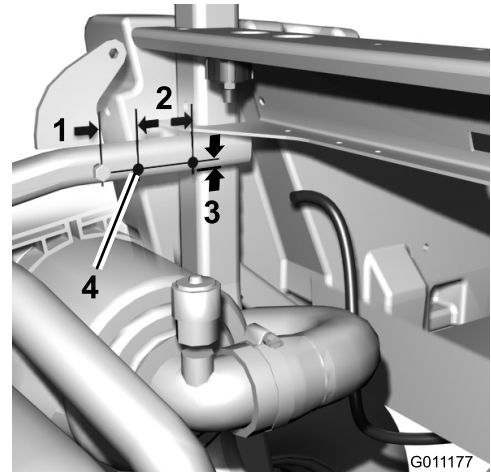

Figure 2
1. Use the dimensions shown in Figure 2, to locate, mark, and drill 2 holes with a 9 mm (11/32 inch) diameter in the frame tube.